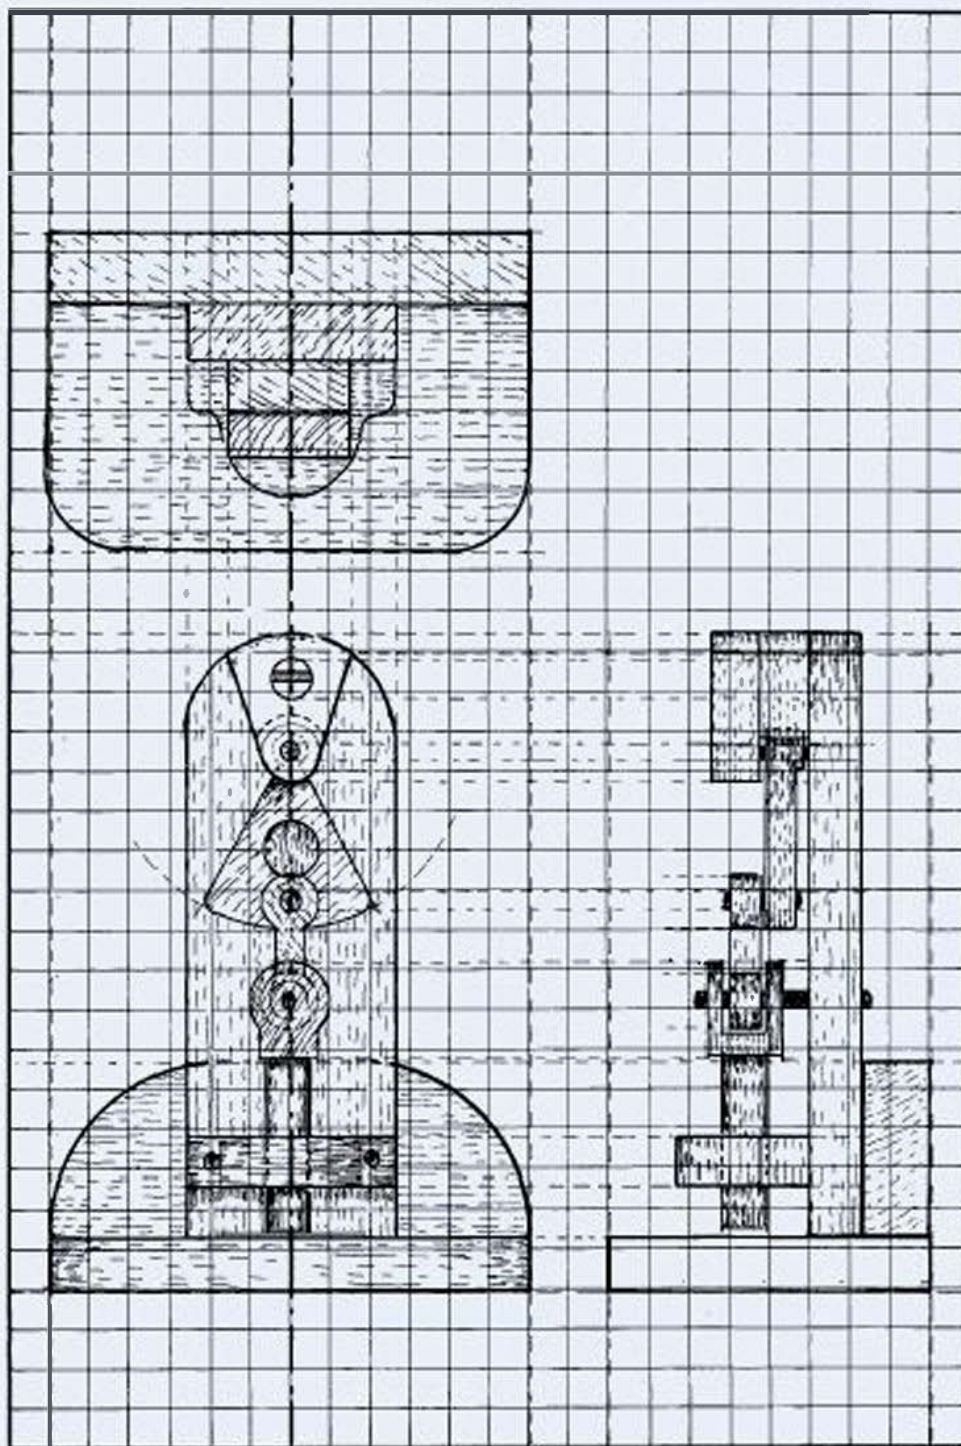

FIGURE 2-1A
Have a look at the working drawing (Fig 2-1A), the templates (Fig 2-1B) and the various photographs, and you'll see that this project is somewhat complicated in that it is made up of a large number of small moving parts. This is not to say that each component is in itself difficult to cut—far from it—but rather that the sum total of putting all the parts together does require a lot of thinking and a lot of fine adjustment.
Study the working drawing (Fig 2-1A), and consider how the machine is made up of the primary units: a base with a low, glue-fixed backboard, a high, round-topped backboard with a pivot rod location slot and various pivot holes, a plate and spacer to hold the sector, the swinging sector weight itself, the connecting rod, the pivoted crosshead joint and punch, and the bracket.
- 1 Having carefully studied the working drawing (Fig 2-1A) and templates (Fig 2-1B), take the two 6'-long pieces of wood—the oak at $\frac{5}{8}$ " thick and 4" wide, and the olive at $\frac{7}{8}$ " thick and $2\frac{1}{4}$ " wide—and the $7\frac{1}{2}$ "-long, 3"-wide board, and use the pencil, ruler, square and compasses to mark all the lines that make up the design.
1 Have a good, long look at the working drawing (Fig 2-1A) and photographs, and note how this project is perhaps slightly unusual in that all the small parts are cut out on the scroll saw.
- 1** Have a look at the working drawing (Fig 2-1A) and templates (Fig 2-1B), and see how the two components—the bracket and the sector—are simple flatwood profiles that are cut out on the scroll saw.